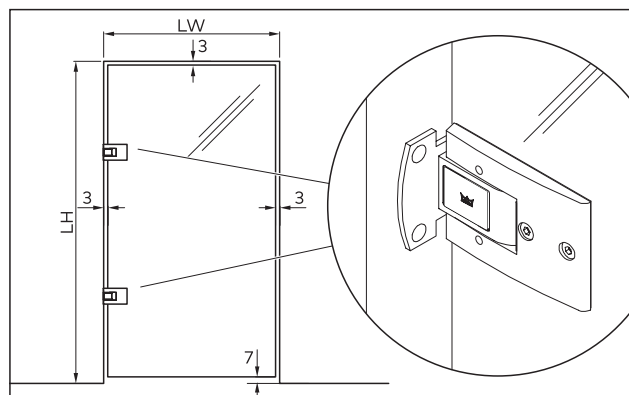

Fig. 5 Gaps
1. Place the glass door leaf in the installation position on wooden blocks or similar objects and align vertically. Note the gaps (Fig. 5).